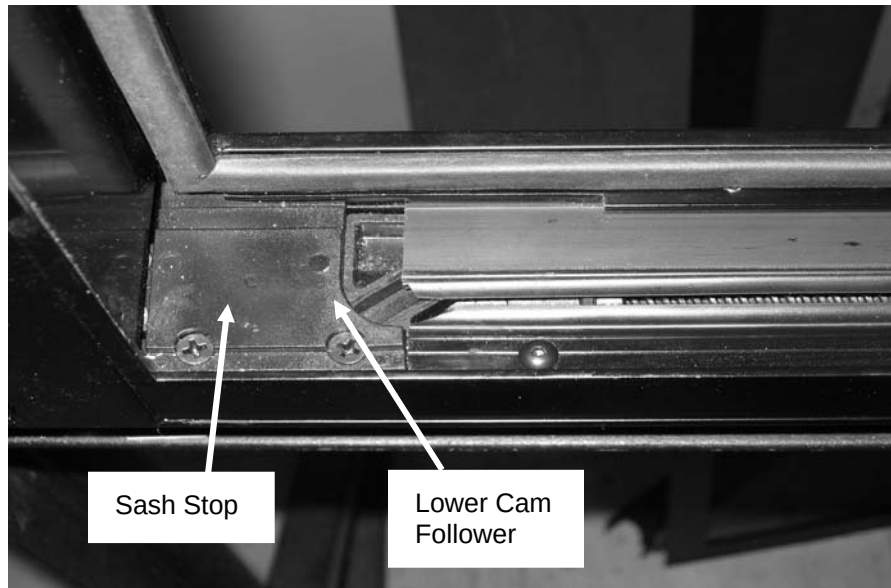

FIGURE 44: PROPER ALIGNMENT
1. Align the leading edge of the slot on the lower cam follower block with the sash stop. Use the power toggle switch to obtain the correct alignment. (Figure 44)